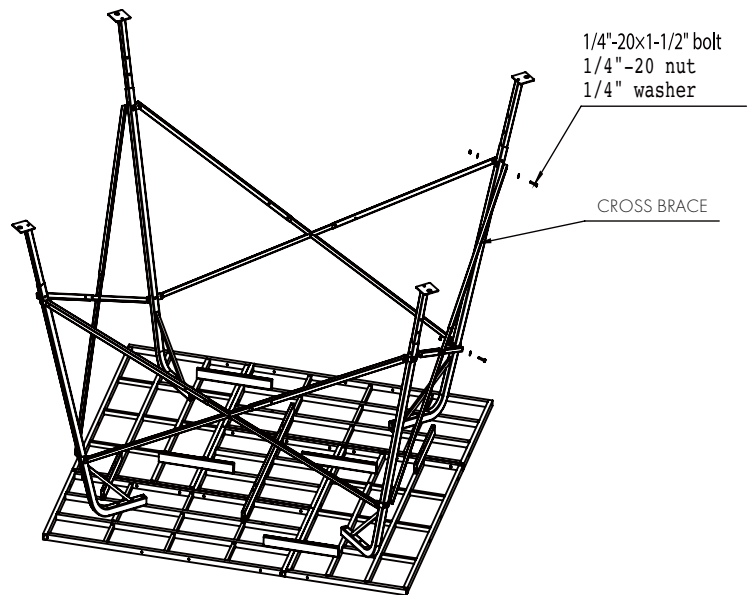

FIGURE 6
Assemble the eight assembled **CROSS BRACES** to the four assembled **LEGS** by using (16) 1/4"-20 x 1-1/2" bolts, (16) 1/4" lock nuts and (32) 1/4" flat washers (Figure 6). **Be sure to not over tighten.**